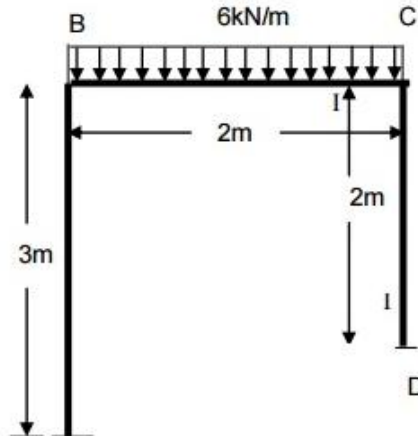

Fig.1
3. A portal frame ABCD is fixed at A and D, and has rigid joints at B and C. The column AB is 3m long. The beam BC is 2m long, and is loaded with uniformly distributed load of intensity 6 kN/m. The moment of inertia is 2.1 and that of BC and CD is I (Fig. 1). Plot B.M. diagram and sketch the deflected shape of the frame. Use Slope deflection method.